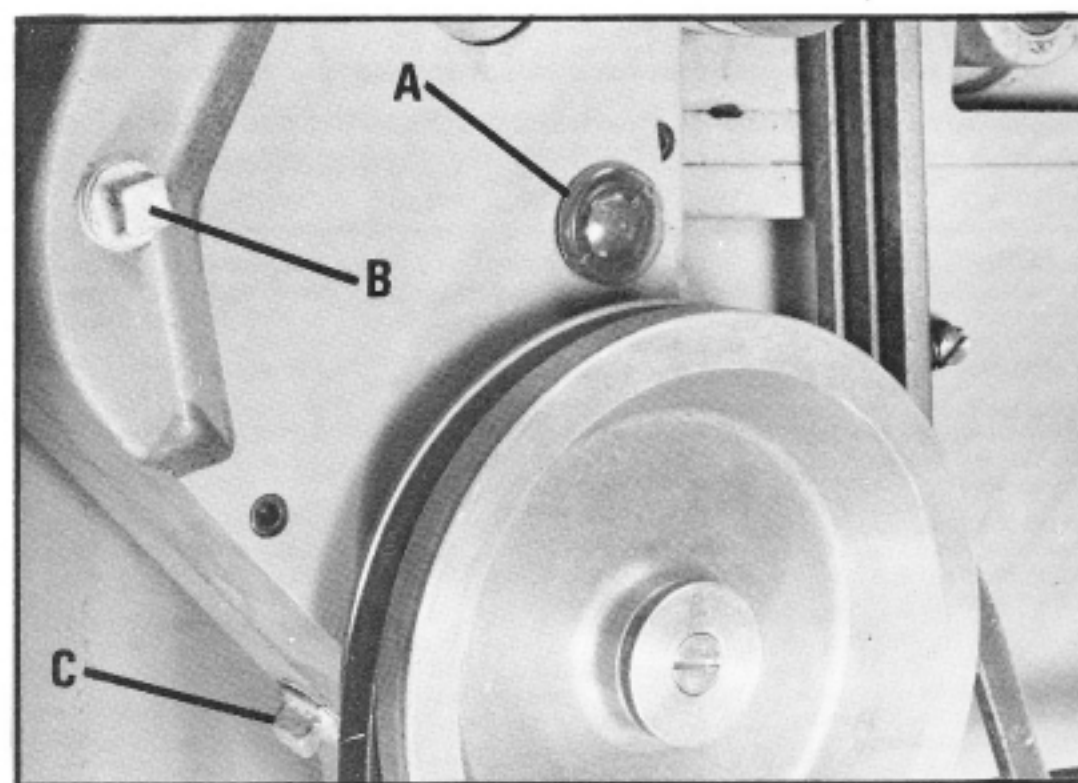

Fig. 44
The gear box oil should be changed once a year using extreme pressure gear oil, available from Delta in one pint cans under part number 999-01-013-1210. The gear box drain plug is shown at (C) Fig. 44. The oil fill screw is shown at (B) and the oil level indicator is shown at (A) Fig. 44.